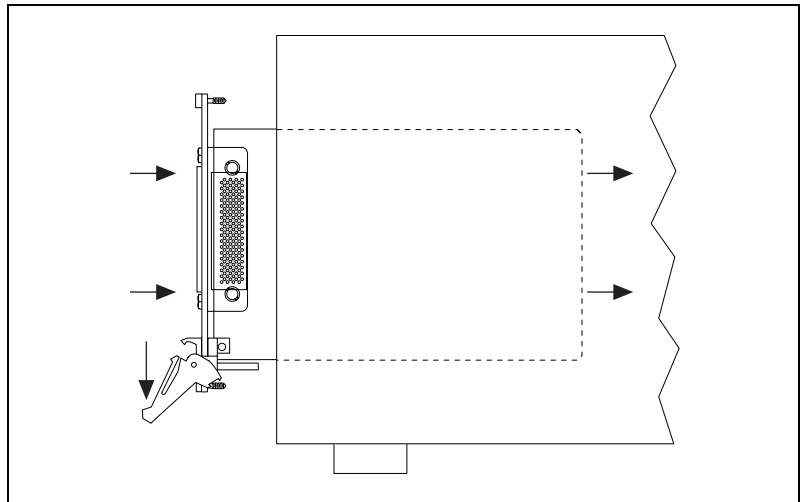

Figure 2-2. Injector/Ejector Handle Position during Module Insertion
2. Slide the module to the rear of the chassis, making sure that the injector/ejector handle is pushed down, as shown in Figure 2-2.